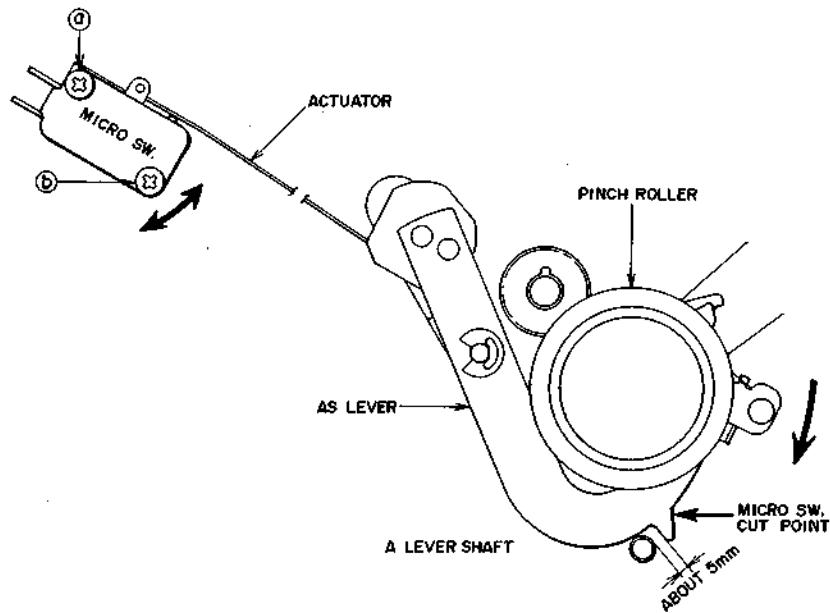

Fig. 16
Move Micro Switch as indicated by the arrow mark (↔) in the figure and fix Screws ⑩ and ⑪ so that when the Automatic Shut-off Switch is at ON position, the Micro Switch is perfectly turn off at position at which the gap between A lever shaft and AS lever Stopper is about 5 mm as shown in Fig. 16.